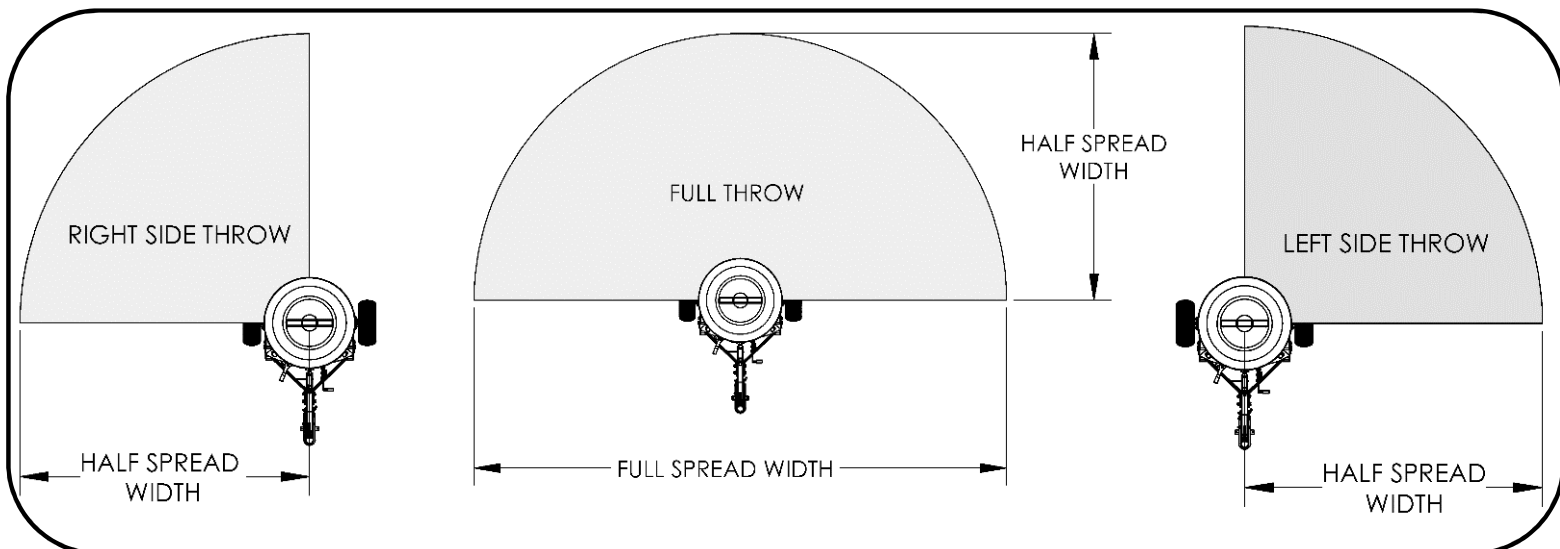

FIGURE 17.3
- By positioning the Offset Adjustment Handle detailed on **page 14**, you can set the spread pattern. See Spread Patterns in **FIGURE 17.3**